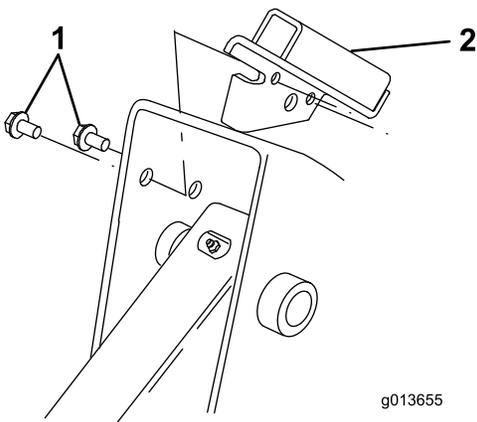

Figure 5
3. Align the tab on the shield bracket with the front edge of the frame with the bracket inside of the loader arm pocket (Figure 5).
- Note:** There is a right and left bracket. Ensure that you install the correct bracket on each side. The tab should be over the frame edge and the bracket should be inside the loader arm pocket with the 2 smaller holes in the bracket lined up with the holes you drilled in the frame (Figure 5).
- Secure the bracket to the frame with 2 self-tapping screws as illustrated in Figure 5.